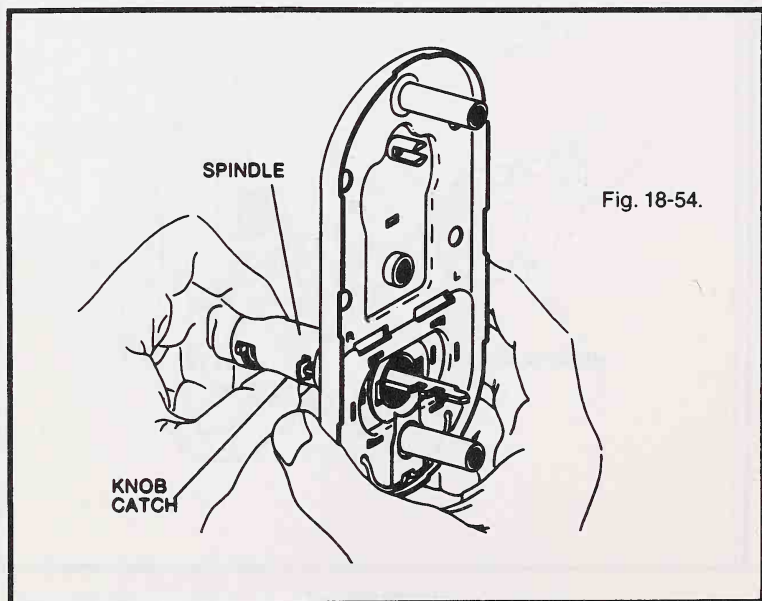

Fig. 18-54.
6. Rotate the spindle 180° to relocate the knob catch. (Fig. 18-54).